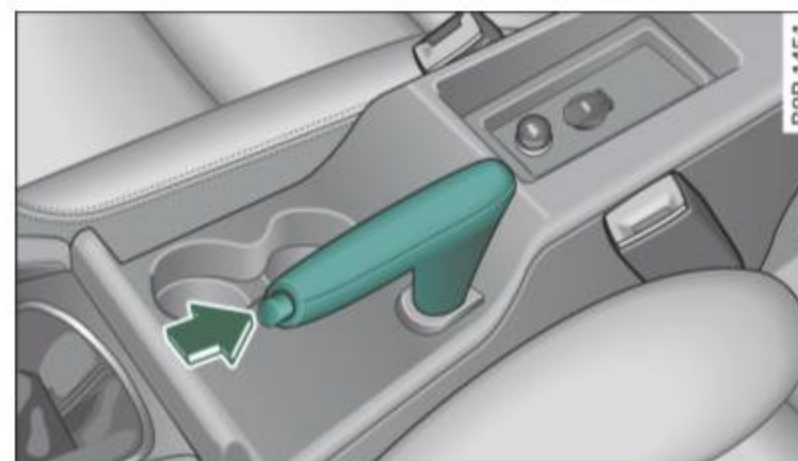

Fig. 109 Center console: Parking brake set
- Pull the parking brake lever up slightly *and* press the release button at the same time ⇒ *page 108, fig. 109 -arrow-*.